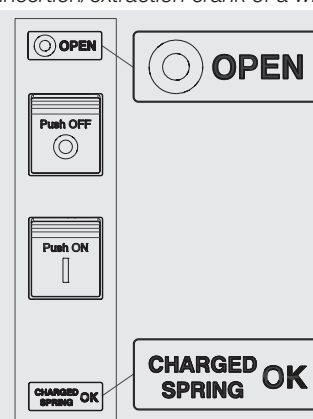

Figure 33
2. Circuit-breaker open with springs loaded (see Figure 33).